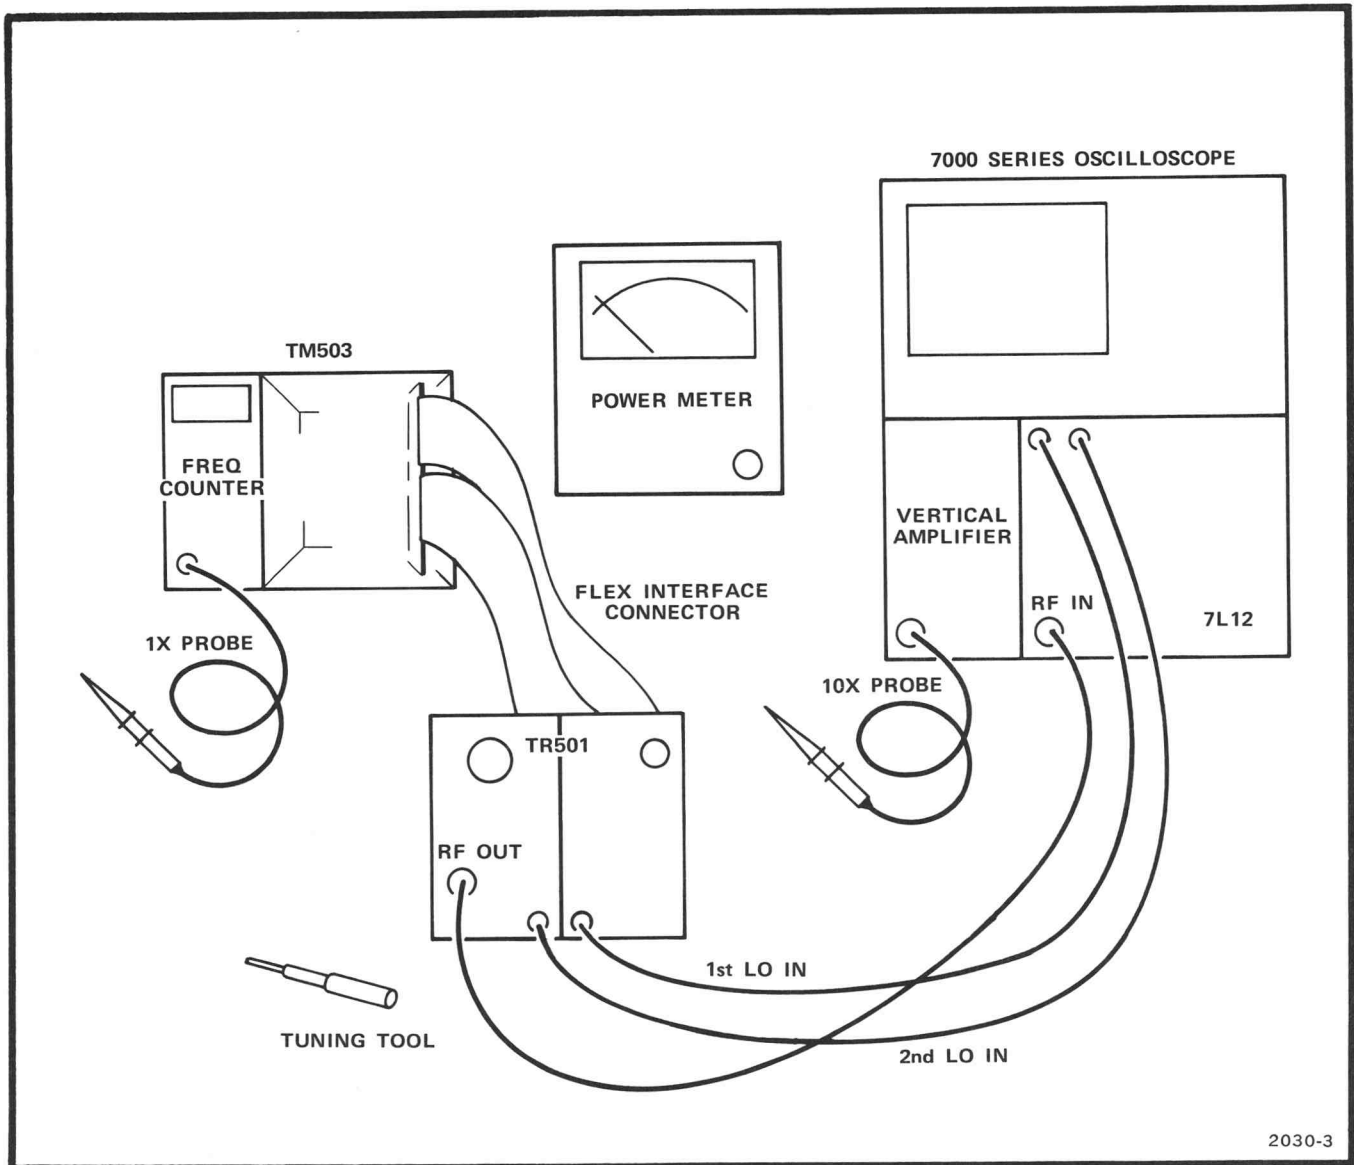

Fig. 4-1. Setup for Calibration.
b. Turn the power to the TR 501 off. Remove the TR 501 from the TM 500 mainframe and connect it through a flexible plug-in extender to the mainframe interface connector. Fig. 4-1 illustrates typical setup for calibration. Turn the power on.